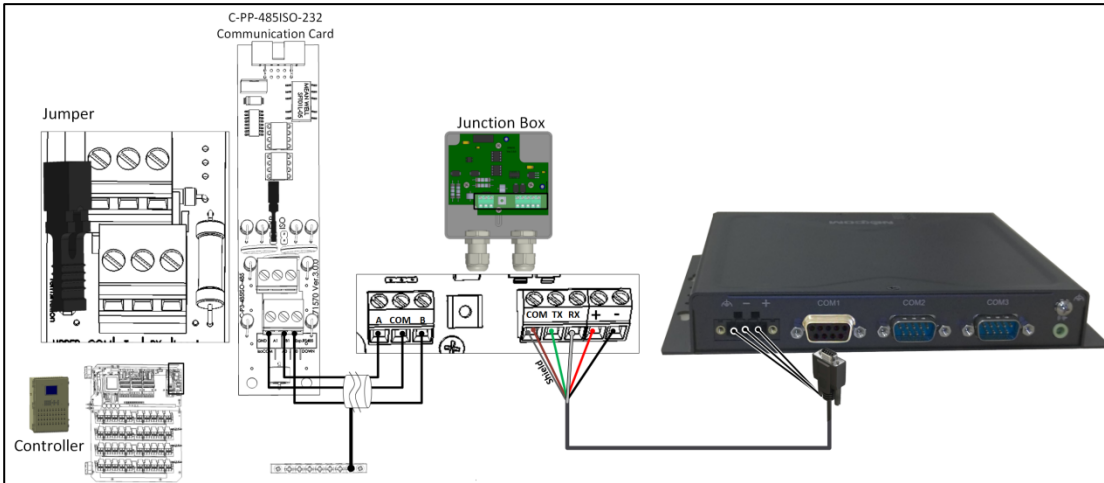

Figure 45: Comm-Box – Controller Termination
- There is no need to install an external 120 Ohm termination resistor in the controller; place a Jumper on the communication card at the unit located at the end of chain (Figure 45).